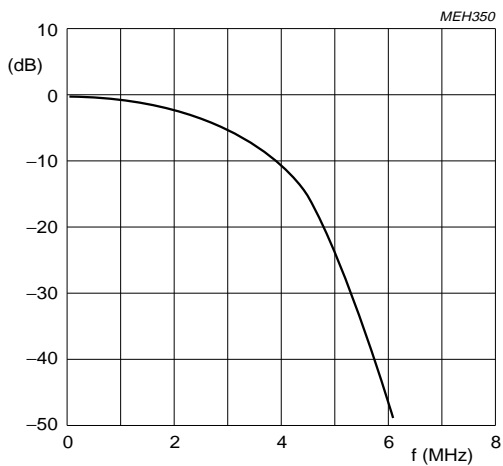

Fig.8 Overall transfer characteristics 4 : 2 : 2 input data (SCBW-bit = 0).
3. Interpolation at 13.5 MHz for 4 : 2 : 2 input data into 4 : 4 : 4 data before modulating baseband signals onto the colour subcarrier. Figures 5, 6 and 7 show the overall transfer characteristics of chrominance in "standard bandwidth condition" (SCBW = 1). Figures 8 and 9 show the overall transfer characteristics of chrominance in enhanced bandwidth condition (SCBW = 0), which is not possible for 4 : 1 : 1 input data. The transfer curves are slightly different at 12.27 and 14.75 MHz.